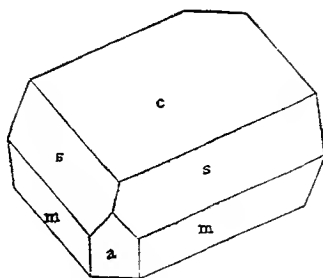

Figure 214. Titanite, Canada, Common Form
**Titanite** is a calcium silicate containing titanium,  $\text{CaTiSiO}_5$ . It is rather widely distributed in many rocks in small *monoclinic crystals*, usually of brown *color*, though many other colors are found. The most notable occurrences from a mineralogical standpoint were the large brown crystals of Canada, figure 214, and the beautiful yellow, gem crystals of Tilly Foster Mine, New York and of the Alps.